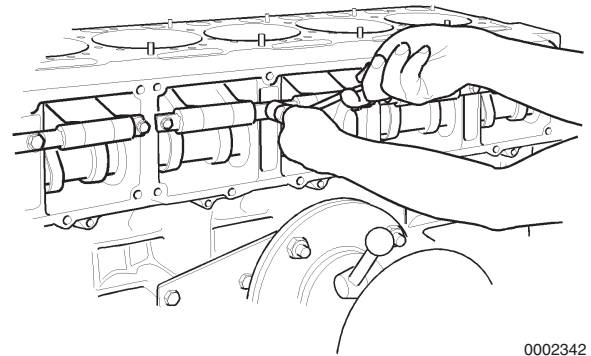

Figure 5-138
13. Lubricate valve tappets with clean engine oil and install in original locations. Tighten banjo bolts to 32 N·m (24 ft·lb) (**Figure 5-138**). **NOTICE:** The sealing surfaces must be absolutely clean and free from grease. Do not touch the surfaces after degreasing.